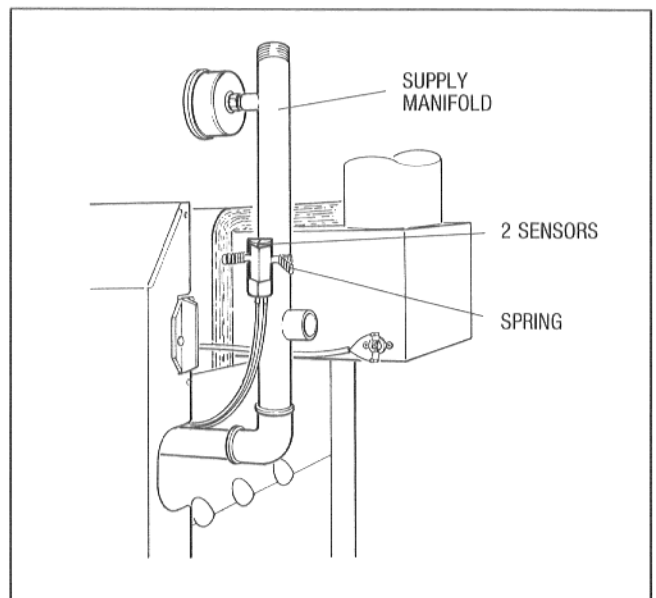

Fig. 6
- Route the remaining two sensors, the M 126 adjustable aquastat sensor and temperature gauge sensors, to the supply manifold on the back of the boiler (Fig. 6). Attach these two sensors to the supply manifold using the spring provided. Cover the sensors with the Warmeleitpaste provided and wrap the sensors and the piping with insulation.